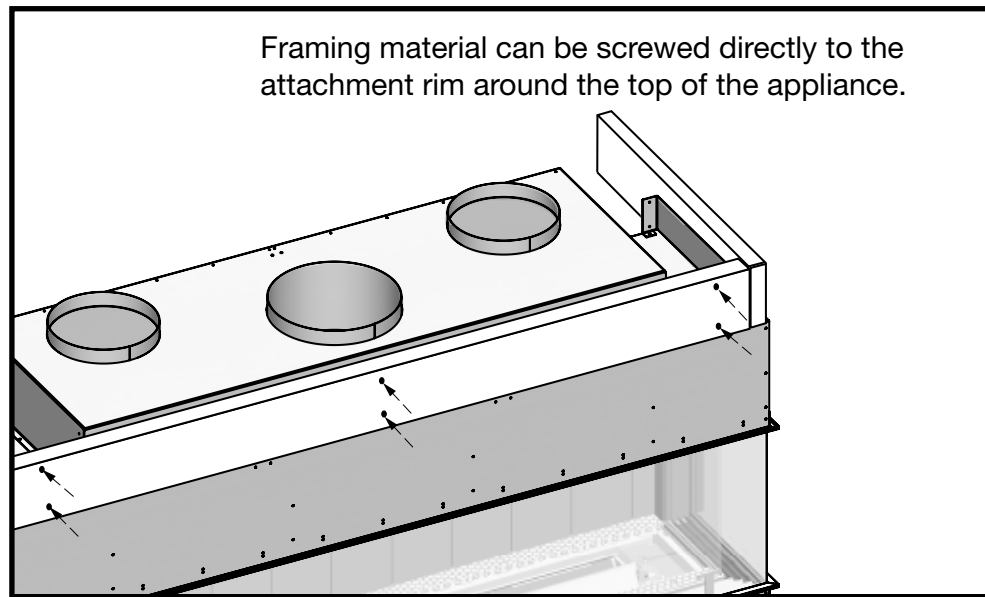

Figure 7: Stud securing points for Top Intake models.
1. When securing wooden studs to the top of the unit, the screws can be secured through any part of the upper fastening area surface (Figure 7).